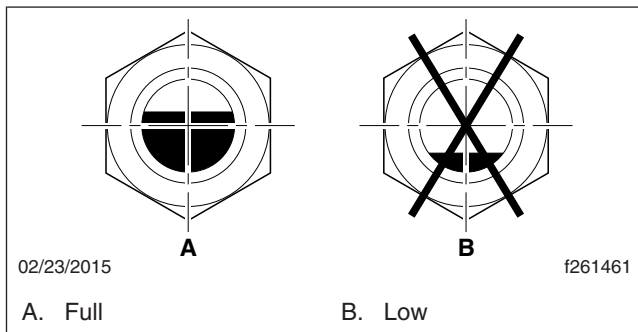

Fig. 7, Transmission Fluid Level Sight Glass
2. Check the fluid level in the sight glass. When the fluid level is at or above 3/4 of the sight glass, then it is at or above the minimum fill level. See **Fig. 7**.